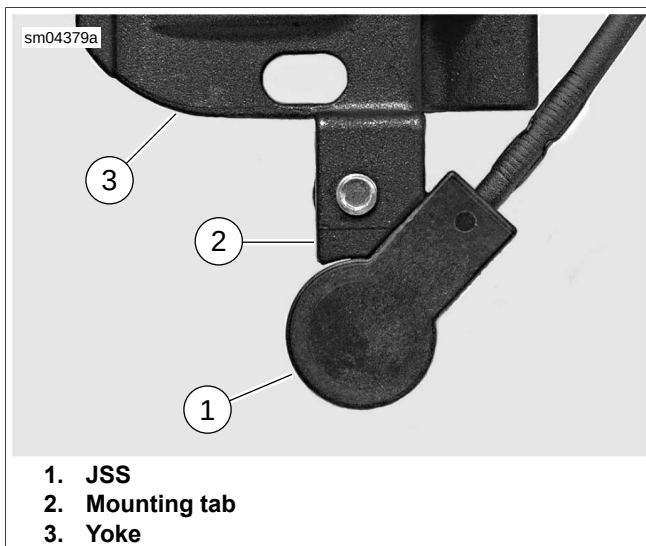

Figure 6-122. JSS Mounting (top view)
See Figure 6-122. Align JSS (1) with mounting tab (2) on jiffy stand yoke (3). If sensor is not properly aligned with mounting tab when screw is tightened, sensor or mounting tab may be damaged.